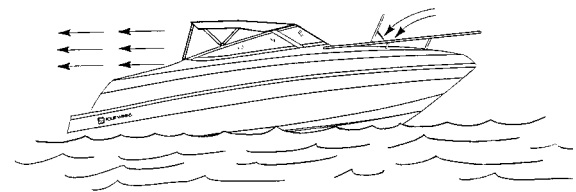

FIGURE H5: DESIRED AIR FLOW THROUGH THE BOAT.
4. Opening and closing ports, hatches, doors, and windows may raise or lower CO levels on board a boat. See Figures H5 and H6.